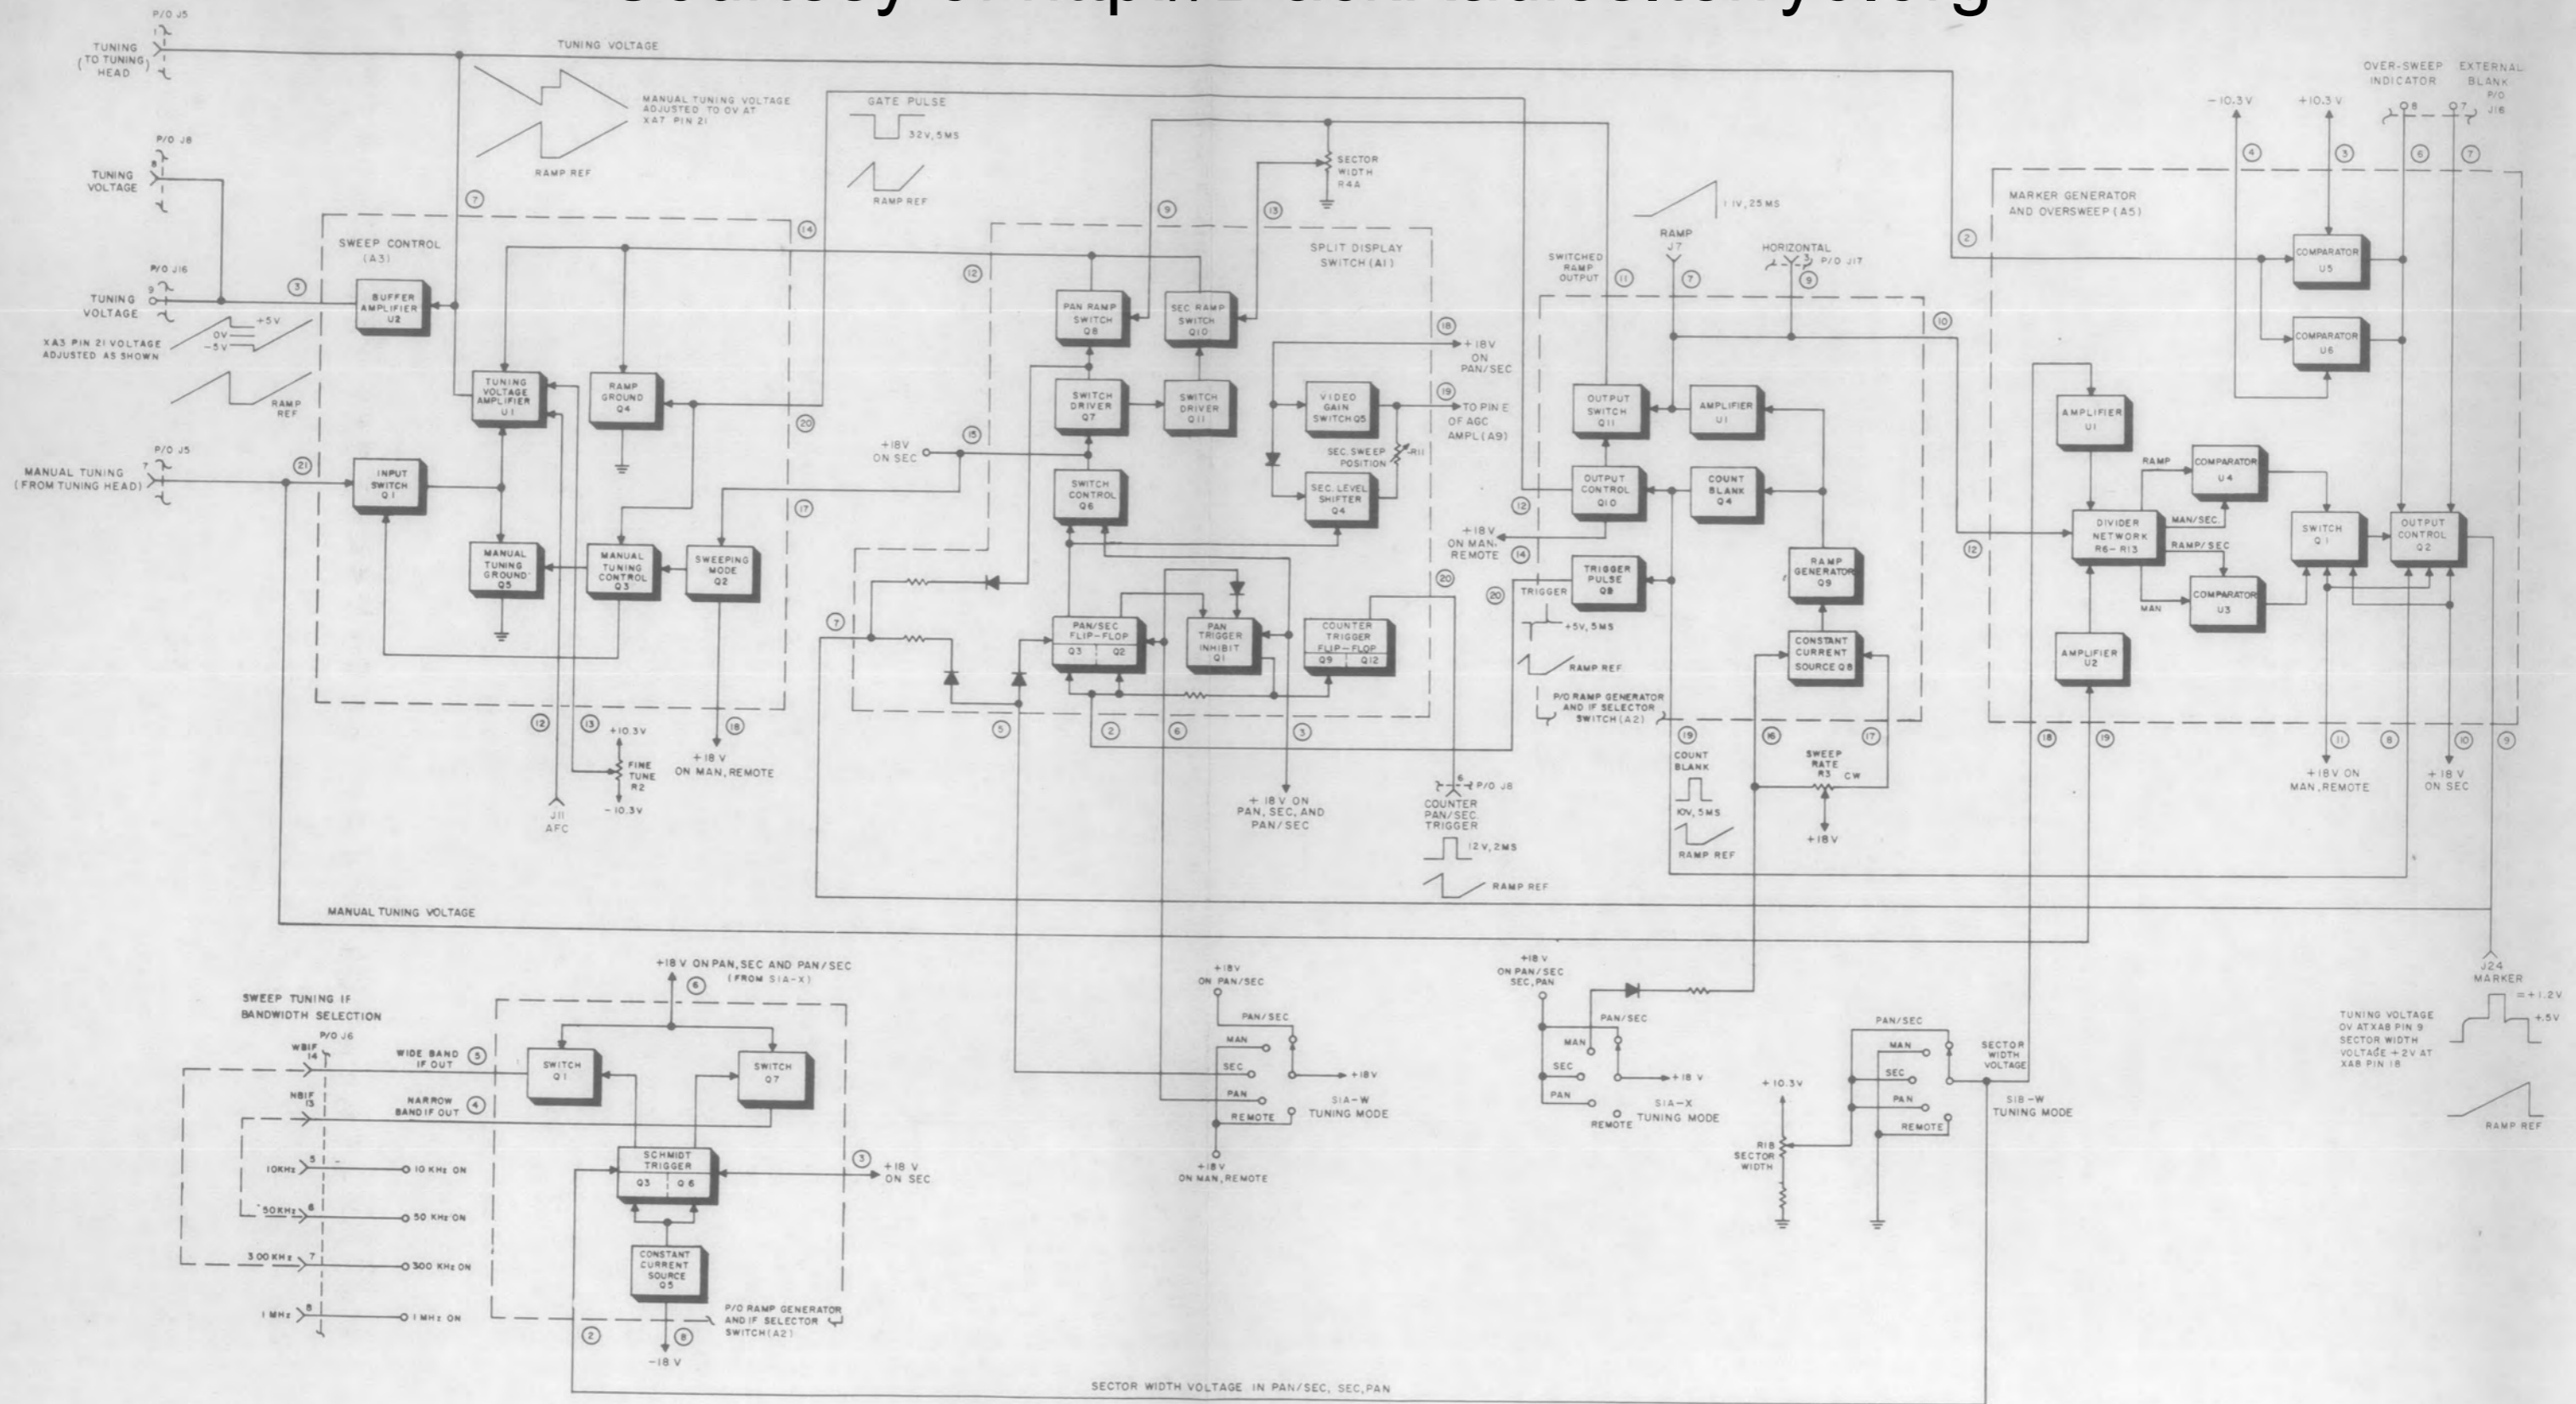

Figure 2-2. Type 215 Receiver, Control Circuits, Functional Block Diagram
2.2.2 Internal Control Circuits. - Figure 2-2 functionally illustrates the internal control circuits. These circuits are contained on modules A1, A2, A3, A5, and the receiver main chassis. The overall function of the circuitry is to determine the receiver tuning mode, select the IF bandwidth in the sweep tuning modes, and supply certain control and information outputs to auxiliary equipment used with the 215 Receiver. In the MAN tuning mode, a manual tuning voltage, developed by a precision potentiometer geared to the tuning drive and tape dial in the plug-in tuner, is inverted in the receiver and returned to the tuning head. The REMOTE TUNE mode function is identical except that the tuning voltage must be supplied to rear panel jack J23 and is coupled through common mode rejection amplifier A16U1. In the PAN mode, the entire range of the plug-in tuning head is swept at a rate set by the SWEEP RATE control. At the end of each sweep, the manual tuning voltage is switched to the tuning head for 5 ms so that the manually tuned frequency can be displayed on the associated frequency counter. The Ramp Generator and IF Selector Switch module, A2, develops the ramp tuning voltage and the 5 ms gate pulse output used to switch the tuning voltage. In the SECTOR tuning mode, any portion of the tuner range may be swept from zero to full range depending upon the settings of the manual tuning knob and the receiver SECTOR WIDTH control. The plug-in tuning head tuning knob essentially sets the center of the sector to be swept, and the receiver SECTOR WIDTH control determines the frequency dispersion from the center frequency. Also, at the end of each SECTOR sweep, the manually tuned frequency is switched to the tuning head for 5 ms as in the PAN mode. In the PAN/SEC mode, the receiver operation alternates between the PAN and SECTOR modes. Switching between these modes is accomplished by the split display switch (A1) and the tuning mode switch S1.